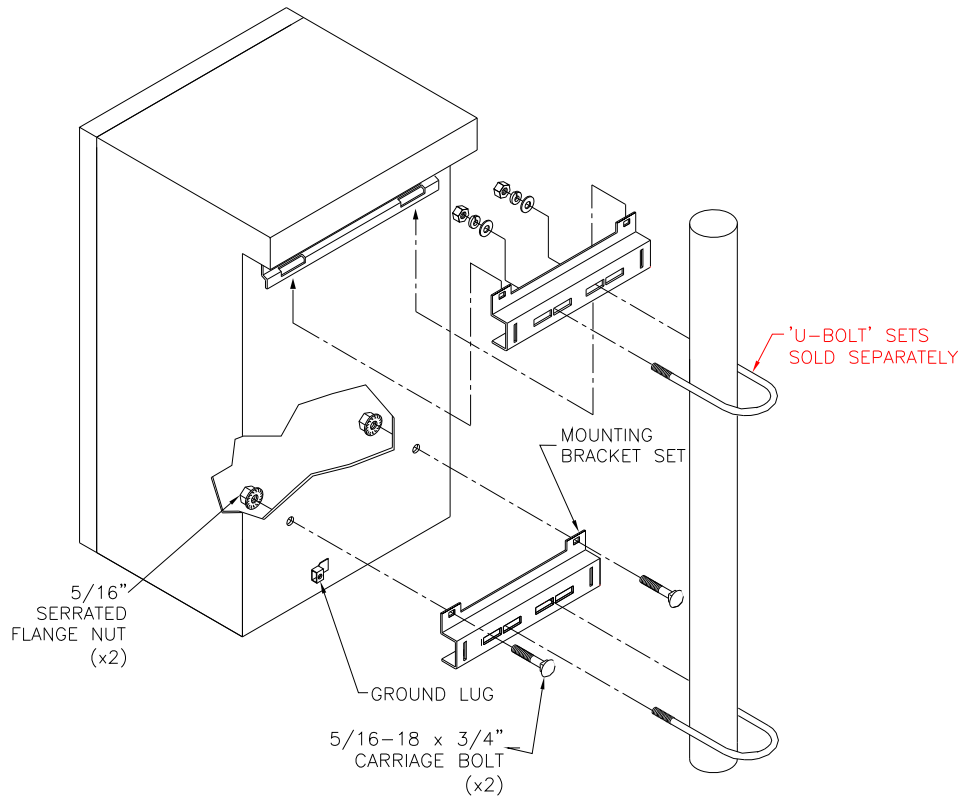

FIGURE 2A: WF / F-STYLE CONTROL/BATTERY ENCLOSURE POLE MOUNTED INSTALLATION
- Hang the enclosure without batteries on the upper mounting bracket as depicted in FIGURE 2A.